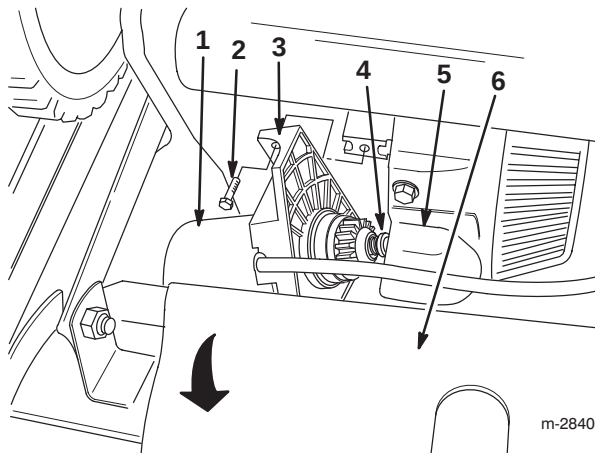

Figure 6
3. Pull the bottom cover down below the axle and remove the lower starter motor mounting bolt (Fig. 6).
4. Slide the starter motor away from the pinion cup, and remove the starter motor and the attached switch assembly from the snowthrower (Fig. 6).
- Push gently on the pinion stop as necessary and insert the pinion into the pinion cup (Fig. 6).
- Install the bottom cover back into its original position above the axle (Fig. 6).